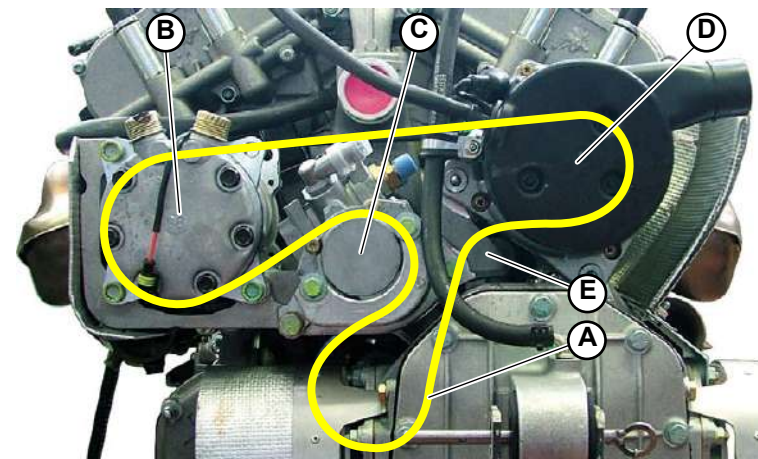

Fig.1
1. Make the auxiliary belt (**A-Fig.1**) slide on the air conditioning system (**B-Fig.1**), water pump (**C-Fig.1**) and engine pulleys.
2. Move the alternator (**D-Fig.1**) towards the center of the engine and make the belt slide on the alternator pulley by pressing the belt tensioner (**E-Fig.1/2**).